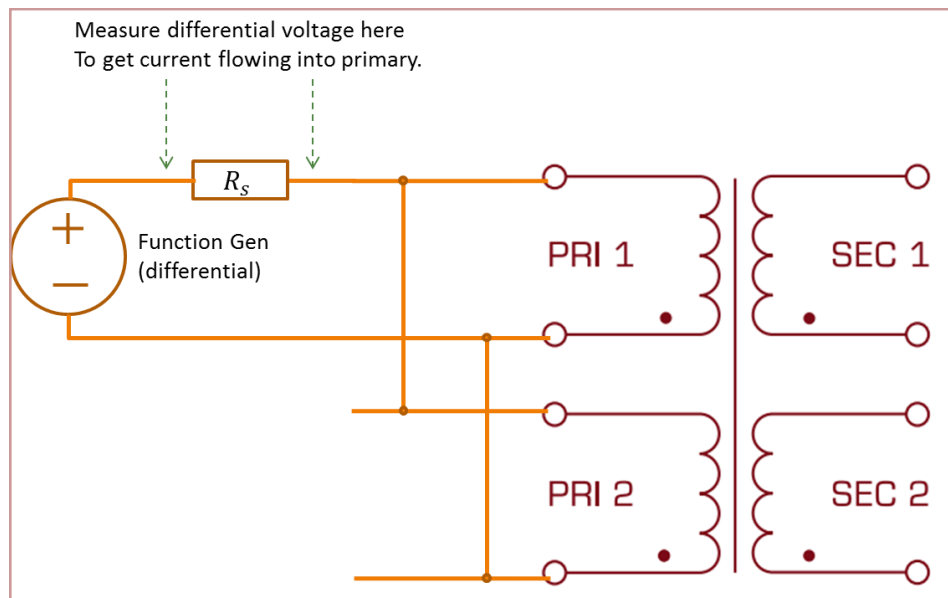
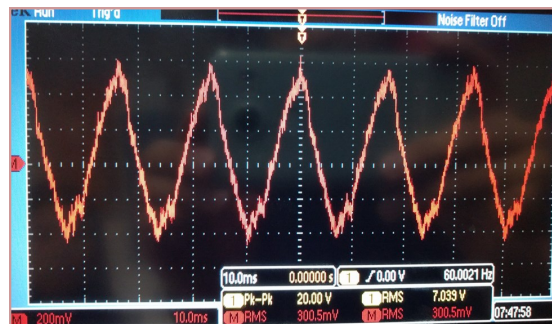

Figure 28. Measuring primary current.
Figure 29. Primary current waveform.
6. Now we will measure the no-load input current flowing into the transformer. Add a resistor in series with one side of the paralleled primary windings as shown in Fig. 28. This resistor is called a sampling resistor and the voltage drop across it is used to calculate the current flowing through it. Ideally this resistor should be as small as possible so as not to disturb the circuit. However in this application the current is quite small and a larger resistor around 50-100 ohms is needed to see the voltage clearly. This should be quite small compared to the primary impedance and should not affect accuracy too much. The waveform will be very noisy and you should use averaging to smooth it out. This is found in the “Acquire” menu. Refer to the user manual if you need more instructions. If you did the measurement correctly, then you’ll get a waveform like that shown in Fig. 29. The reason the current isn’t perfectly sinusoidal is because of the nonlinear magnetic materials in the transformer. Calculate the current flowing into the primary. Using the voltage applied across the primary and the winding resistance calculate the power dissipated in the transformer. **(Photo, calculations of current and power)**
7. Next, we will measure the input current using the multimeter because it is more accurate than our oscilloscope. Simply connect the multimeter in series with the function generator and the primary of the transformer. Replace the resistor in Fig. 28 and put the multimeter in series in AC current mode. Measure the current, and use that to calculate the power dissipation. How do your values differ from the previous step? **(Measured current, calculations of power)**